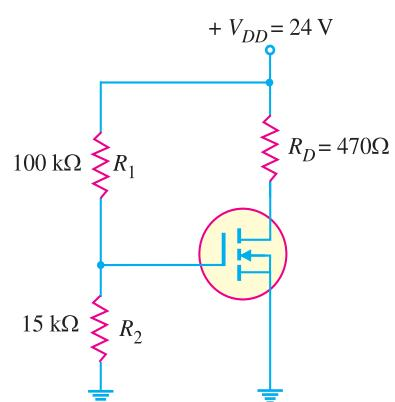

Fig. 19.61
**Example 19.36.** Determine  $V_{GS}$  and  $V_{DS}$  for the *E-MOSFET* circuit in Fig. 19.61. The data sheet for this particular MOSFET gives  $I_{D(on)} = 500 \text{ mA}$  at  $V_{GS} = 10 \text{ V}$  and  $V_{GS(th)} = 1 \text{ V}$ .
**Solution.** Referring to the circuit shown in Fig. 19.61, we have,